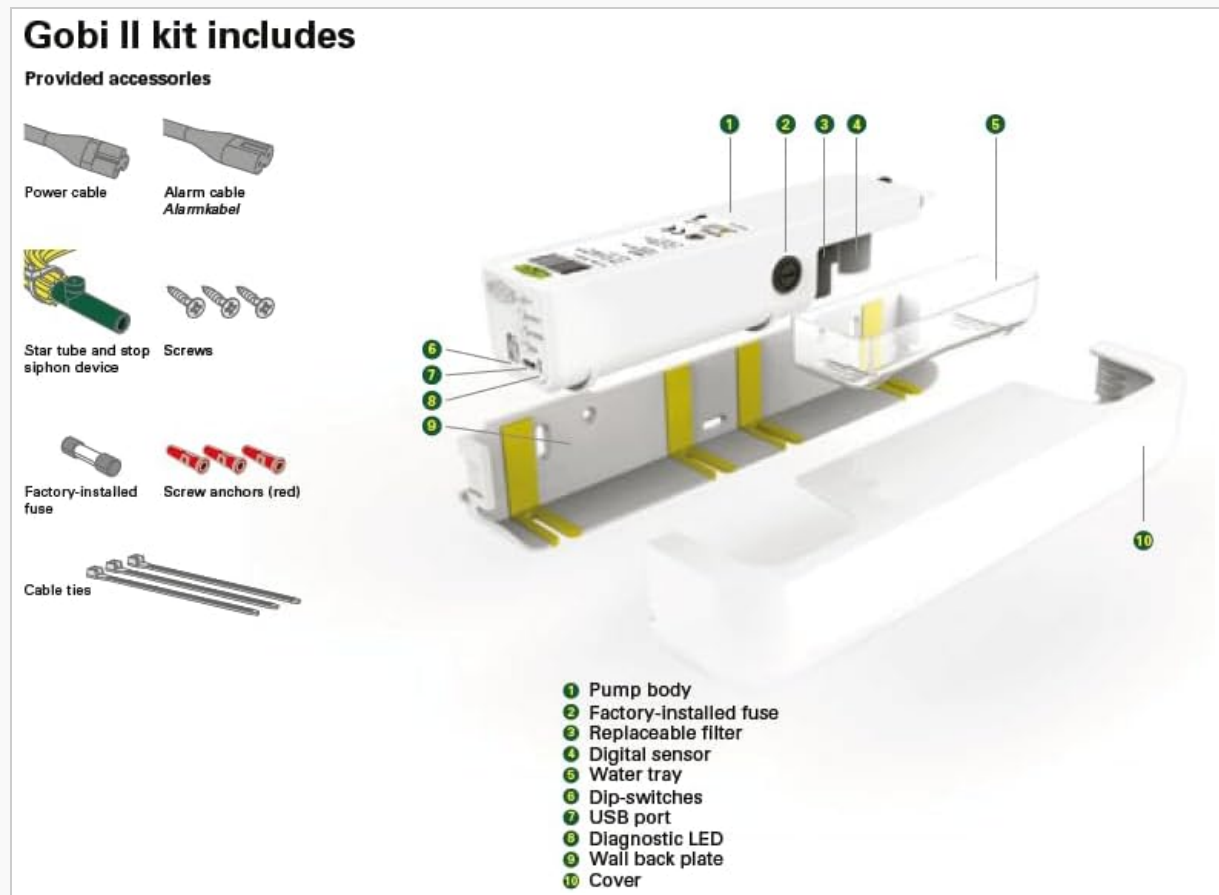

Figure 3.1: GOBI II kit components and labeled diagram.
1. **Mounting:** Secure the pump's wall back plate (component 9 in Figure 3.1) to a stable surface directly beneath the air conditioning unit using the provided screws and screw anchors. Ensure it is level.
2. **Pump Body Installation:** Slide the pump body (component 1 in Figure 3.1) onto the mounted back plate until it clicks securely into place.
The integrated digital sensor (component 4 in Figure 3.1) precisely monitors the water level, ensuring the pump activates only when necessary. The pump's demand-oriented control adjusts the pumping capacity as needed, optimizing efficiency and minimizing noise.
The pump features a diagnostic LED (component 8 in Figure 3.1) to indicate its operational status.
- **Annual Cleaning:** Disconnect power to the pump and the AC unit. Carefully remove the pump body from the wall back plate. Clean the water tray (component 5 in Figure 3.1) and the digital sensor (component 4) to remove any sludge, mold, or debris. A soft brush and mild detergent can be used. Rinse thoroughly with clean water.
- **Filter Replacement:** The pump includes a replaceable filter (component 3 in Figure 3.1). Check its condition during annual cleaning and replace if it appears clogged or damaged.